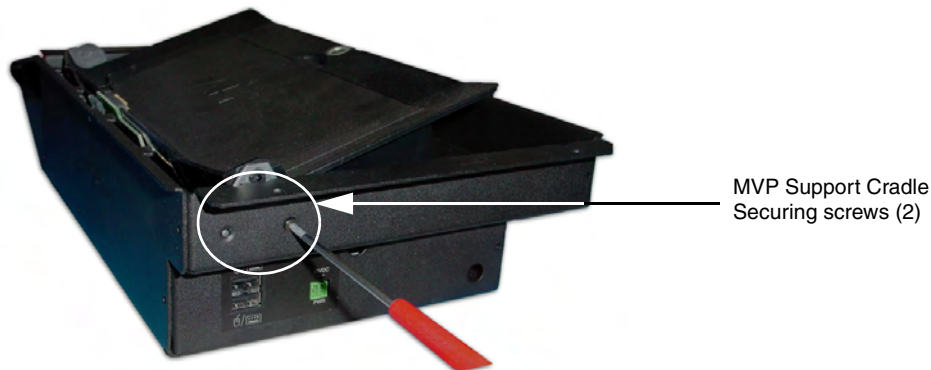

FIG. 21 Removing the MVP Support Cradle securing screws
1. Unscrew the two MVP Support Cradle Securing screws, located on the lower right side of the unit (*just above the USB connectors*) (FIG. 21) and set them aside.
2. Insert the screwdriver into the large hole on the side of the existing black WDS housing (FIG. 21).
10. Align the MVP Support Cradle Securing plate (FIG. 21 on page 20) to its corresponding holes along the outside of the housing and screw in the remaining two MVP Support Cradle Securing screws back to the lower right side of the unit (FIG. 21 on page 20).